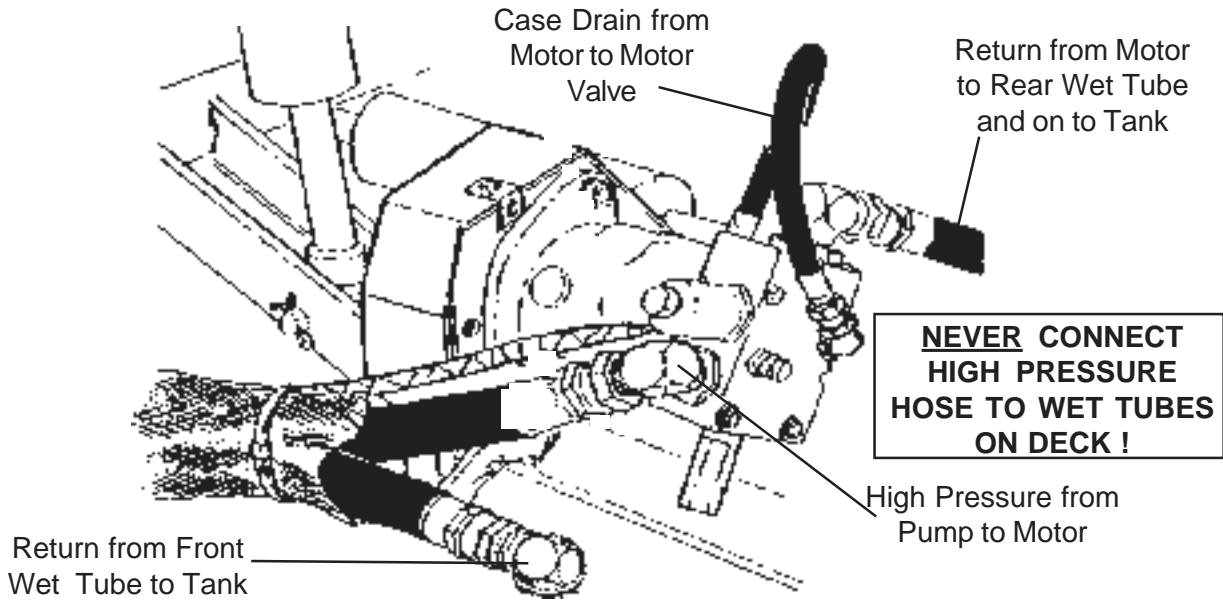

Figure 28
**17. Prepare Pump Fittings** The Pump will need to be prepared for connecting the hoses. There are fittings that must be changed or angles if fitting changed.. The Fittings in the pump should already be installed when you receive it from the factory (See Figure 26 & 27). The outer large cap on the tank suction ports will need to be replaced with elbow fittings and hose barbs (See Figure , 28). Coat the fittings that screw into pumps and tank with a pipe sealer (NOT Teflon Tape), do not put excess sealer on O.D. of fittings and none on I.D. of fittings (See Figure 28).